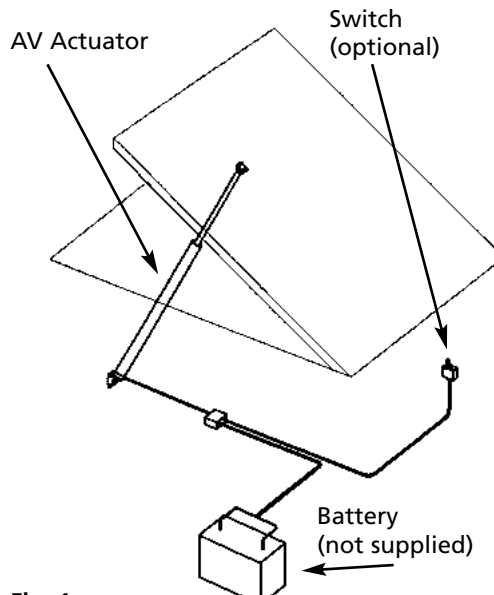

Fig. 1
- n° 1 AV actuator for single installation (Fig.1)
- n° 1 Ulysses actuator (Fig.1) **no dual installation**